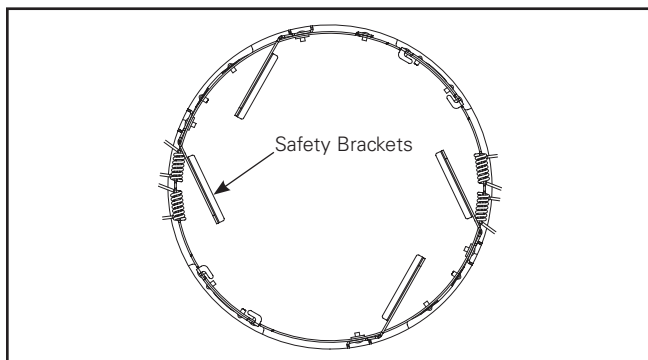
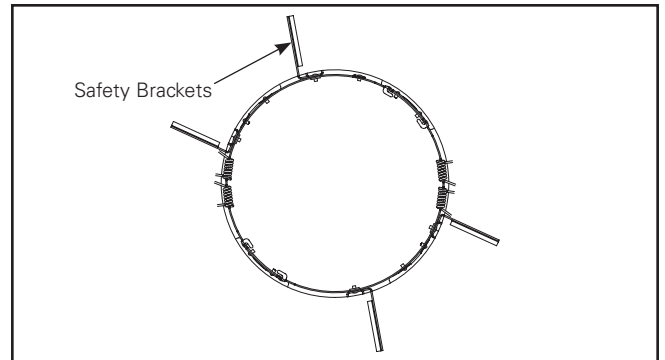

Figure 33.
Figure 34.
7. When Retrofit Ring is first installed into ceiling, four safety brackets will prevent the LED Module from being installed (Figure 33). To continue with installation turn the free arm of the safety brackets clockwise until the arm makes a 90° angle with the fixed base of the safety bracket (Figure 34).